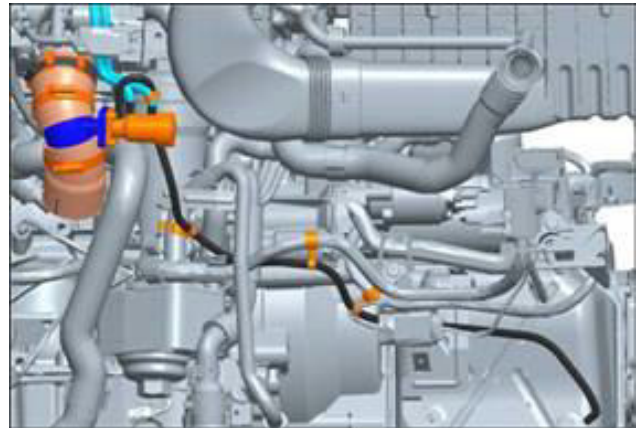
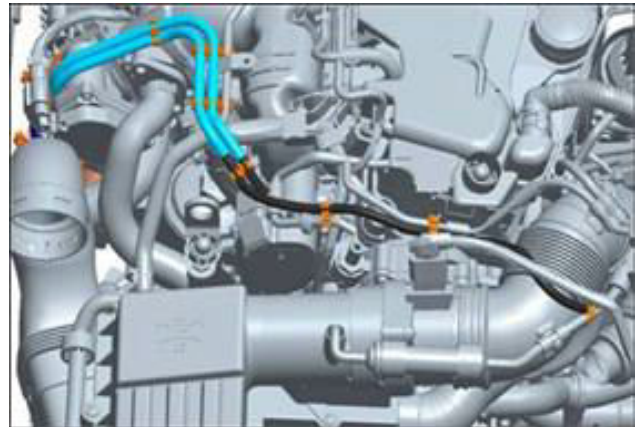

Figure 3: Routing the vacuum overlay harness
Figure 4: Routing the vacuum overlay harness
13. Route vacuum overlay harness (Figure 3, Figure 4).